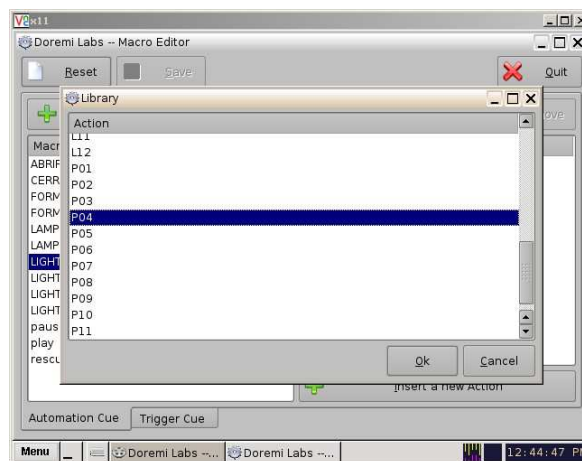

Figure 8.3.3D
8. On the appearing "Library" pop-up window, select the action that needed and validate with the OK button as you can see in the **figure 8.3.3D**. The keys for the action are these: